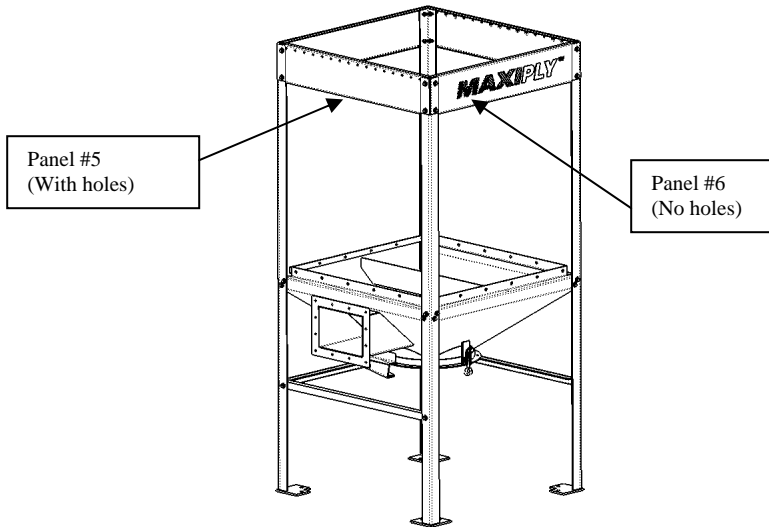

Figure 6 : Assembly step 4
4. Referring to figure 6, install top panels # 5 and 6. The panels with holes must be facing the dust collector inlet.